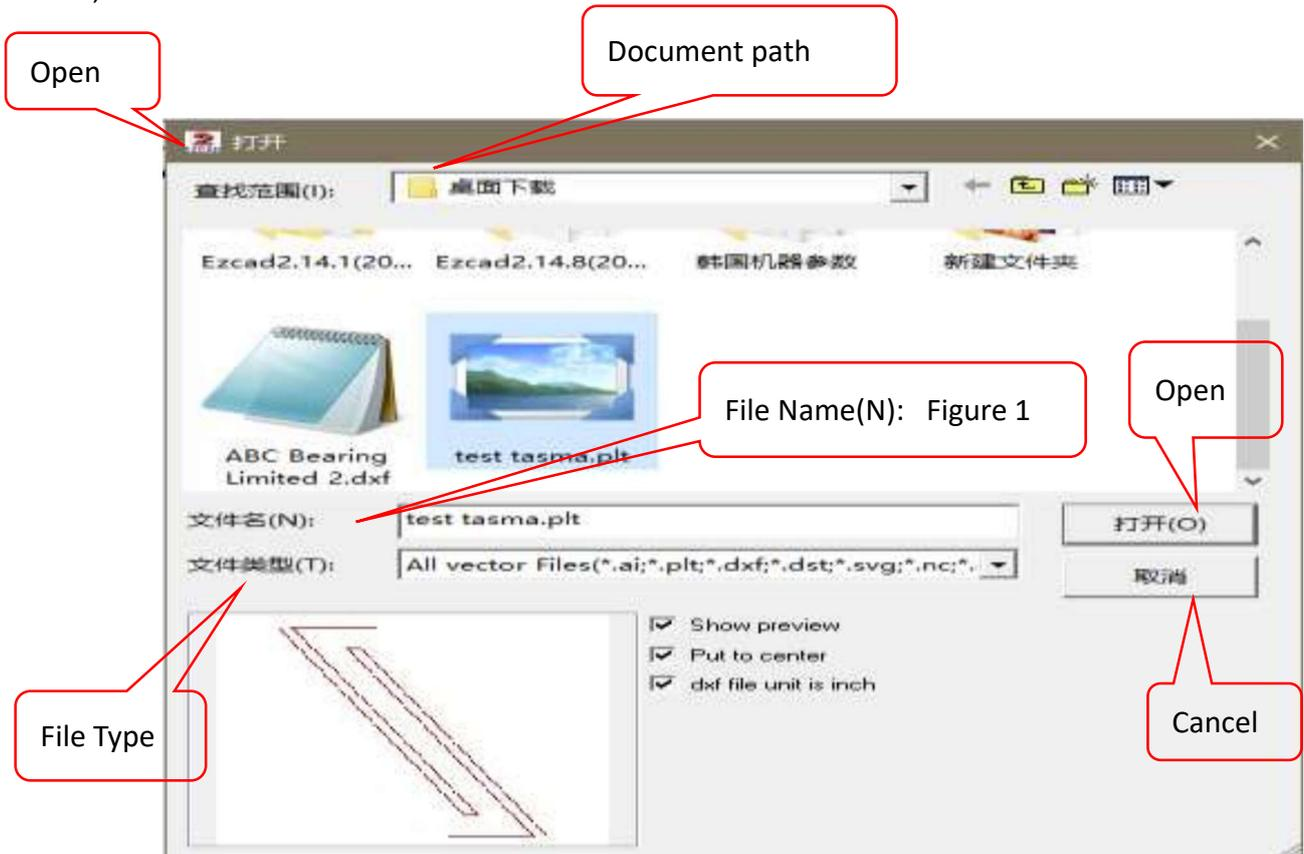

Figure 4-5 Vector File Input Dialogue Box
Step 1: Select the "Vector File" command or click the icon  in the drawing menu. The system will pop up a dialog box as shown in Figure 4-5. Select the vector file you want to import, click "Open", and import the vector file;